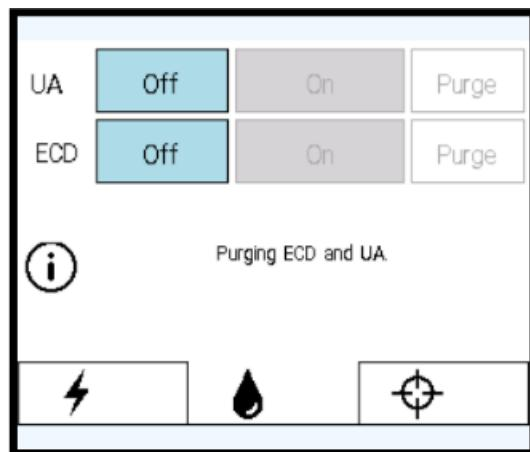
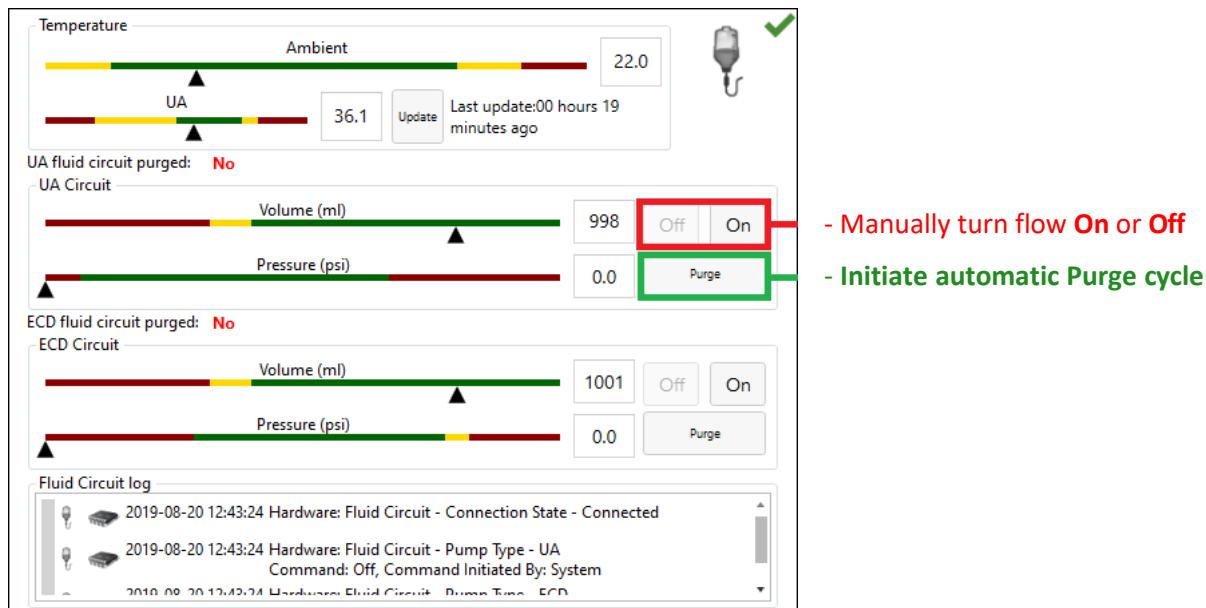

Figure 10: PSIB Display - Fluid Circuit tab
Figure 11: Fluid Circuit information box in TDC Setup workspace
5. On the PSIB display, choose the **Fluid Circuit** tab (Figure 10) and **Purge** the UA and ECD fluid circuits. You can also do this from the TDC by pressing **PURGE** beside the fluid circuit (FC) quadrant (Figure 11).
- a. If the purging cycle ends before completing the steps in this process, return to the PSIB display (or TDC window) and manually turn the flow on by clicking **On**. The fluid pumps will remain on until you click **Off** (*Figure 11*).